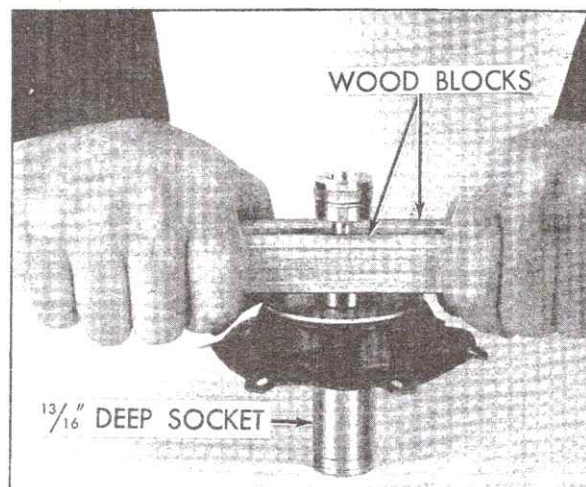

Fig. 4-11 Installing Diaphragm Retainer
2. Use a 13/16 inch deep socket as a pilot for the new diaphragm retainer. Press against the piston shoulder on first stage side, Fig. 4-11, to position diaphragm retainer. The wood blocks used are each 3/4 inch x 3/4 inch x 12 inch.